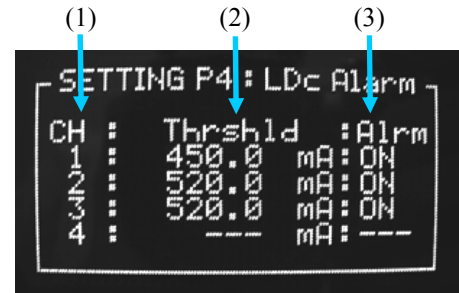

Fig.12 SETTING P4 (e.g.)
6.3.4 Page4: LDtAlarm details (Fig.12)